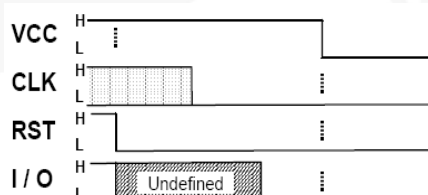

Figure 14. Deactivation (ISO 7816-3 2006)
To ensure the SIM card electrical circuits properly deactivate before the contacts of the SIM card are mechanically connected, ISO7816-3 2006 mandates the sequence of events described in Figure 14. The FXLA2203 provides full transparency to the deactivation timing between host and SIM card.
1. Complete deactivation timing (Figure 14).